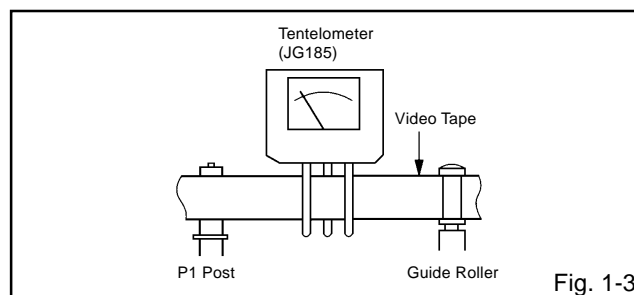

Fig. 1-3
- Install the tentelometer (**JG185**) as shown in **Fig. 1-3**. Confirm that the meter indicates $20 \pm 2\text{gf}$ in the beginning of playback.
- After confirmation and adjustment of Tension Post position (Refer to item 1-2), load the cassette type torque tape (**JG100A**) and set to the PLAY mode.